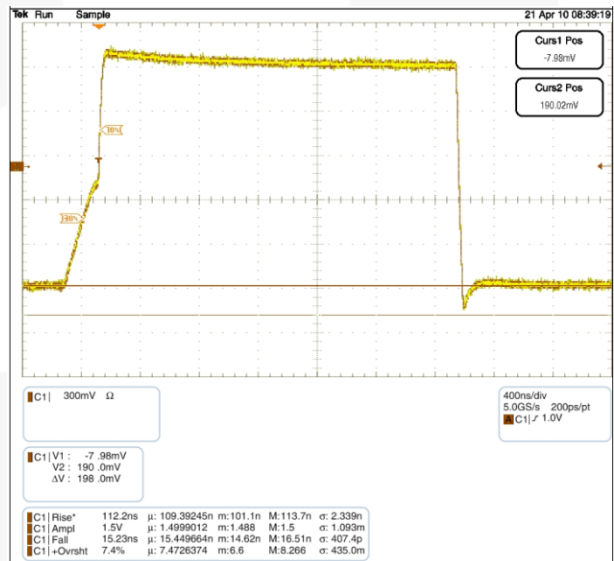

Figure 5. Waveform C: 600pF, Total R_{PU} : 2.2K Ω
Due to I²C's open-drain topology, I²C masters and slaves are not push/pull drivers. Logic LOWs are "pulled down" (I_{sink}), while logic HIGHs are "let go" (3-state). For example, when the master lets go of SCL (SCL always comes from the master), the rise time of SCL is largely determined by the RC time constant, where $R = R_{PU}$ and $C =$ the bus capacitance. If the FXMAR2102 is attached to the master [on the A port] and there is a slave on the B port, the Npassgates act as a low-resistive short between both ports until either of the port's $V_{CC}/2$ thresholds are reached. After the RC time constant has reached the $V_{CC}/2$ threshold of either port, the port's edge detector triggers both dynamic drivers to drive their respective ports in the LOW-to-HIGH (LH) direction, accelerating the rising edge. The resulting rise time resembles the scope shot in Figure 5. Effectively, two distinct slew rates appear in rise time. The first slew rate (slower) is the RC time constant of the bus. The second slew rate (much faster) is the dynamic driver accelerating the edge.